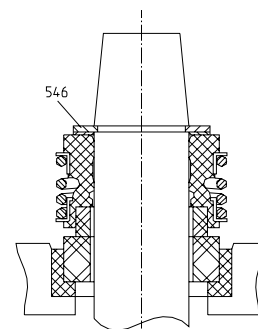

Fig. 16
**d) Rubber-bellows seal, external spring - type "G" (Fig. 16)**